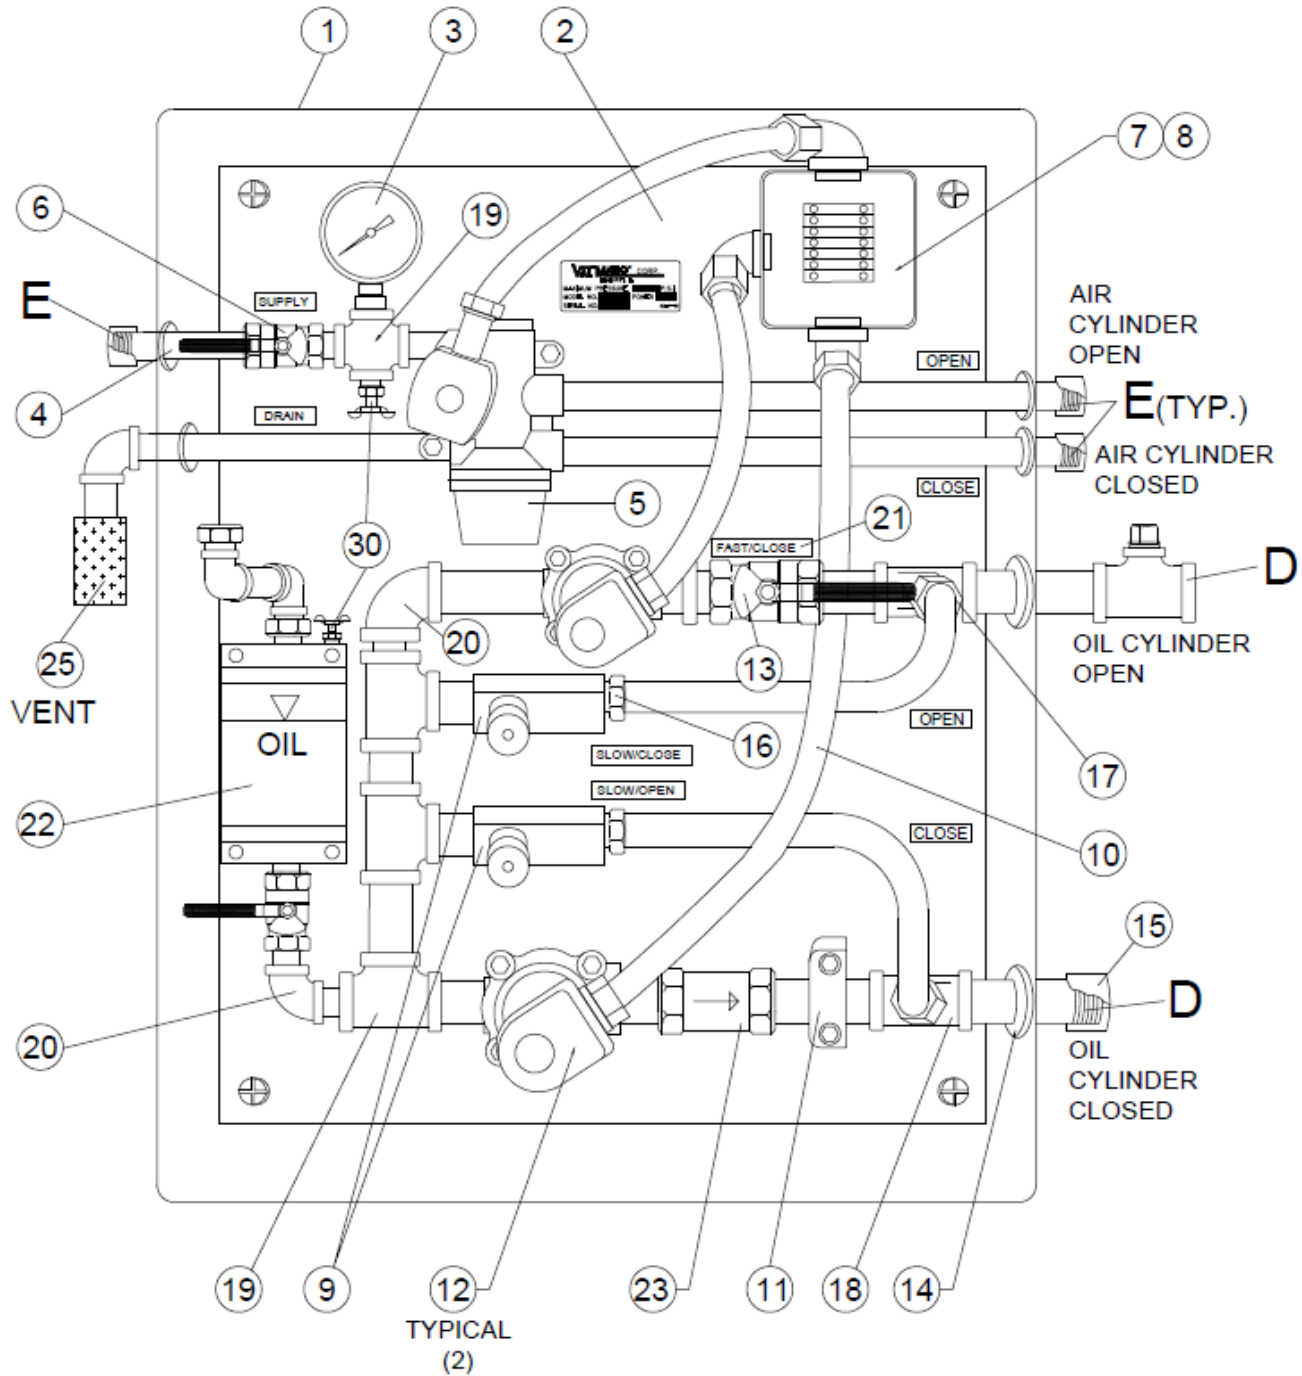

Figure 4. Air-Oil Hydraulic Panel Construction
Refer to Figure 4 for part identification.
1. Repipe the two large pipe lower runs as shown in figure 4 using teflon paste sealant.
2. Attach to the panel (2) with the pipe clamps (11).
3. Connect the gauge (3) and flow control valves (9) to the 4-Way Solenoid Valve as shown.
5. Insert the cabinet seals (14) into the side walls of the cabinet.
6. Insert the 4 pipe nipples through the seals (14) and tighten into the cabinet.